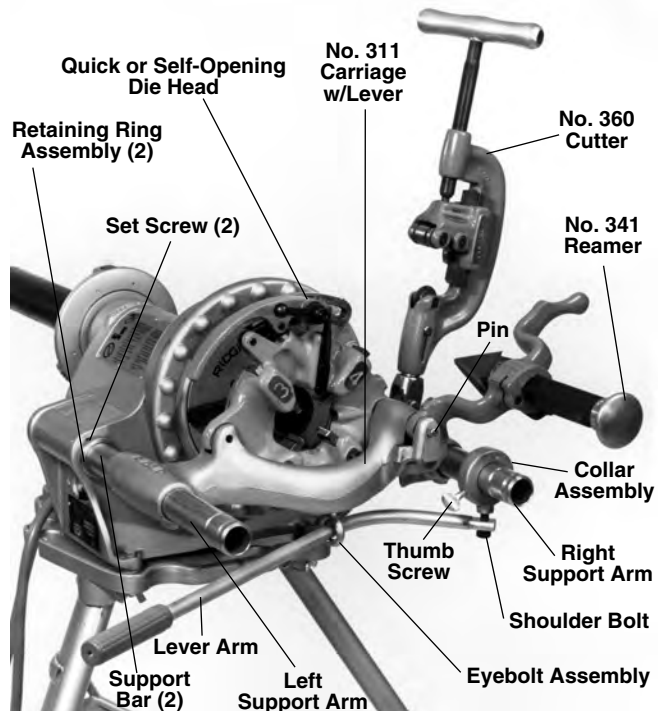

Figure 4 – No. 300 Power Drive with 311A Carriage, 360 Cutter, 341 Reamer and Die Head
1. Inspect the support bars to insure they are forward and secured by two (2) retaining ring assemblies. Retaining ring set screws must be tight (*Figure 4*).
2. Secure eyebolt to the 311A Carriage. Slide lever arm through the eyebolt assembly and secure to collar assembly with shoulder bolt (*Figure 4*).
4. Install the 360 Cutter and 341 Reamer by inserting arm in the slot provided in the carriage and secure with the drive pin (*Figure 4*).